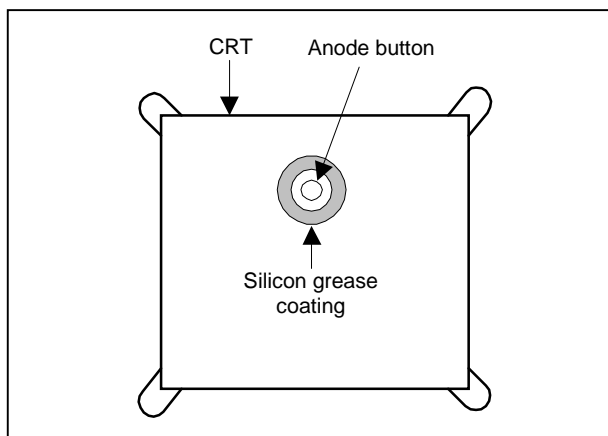

Fig. 6
- Subsequent to replacement of the CRT and HV transformer or repair of the anode cap, etc. by dismantling them, be sure to coat silicon grease for electrical insulation as shown in Fig.6. Wipe around the anode button with clean and dry cloth. (Fig.6) Coat silicon grease on the section around the anode button. At this time, take care so that any silicon greases dose not sticks to the anode button. (Fig.7)